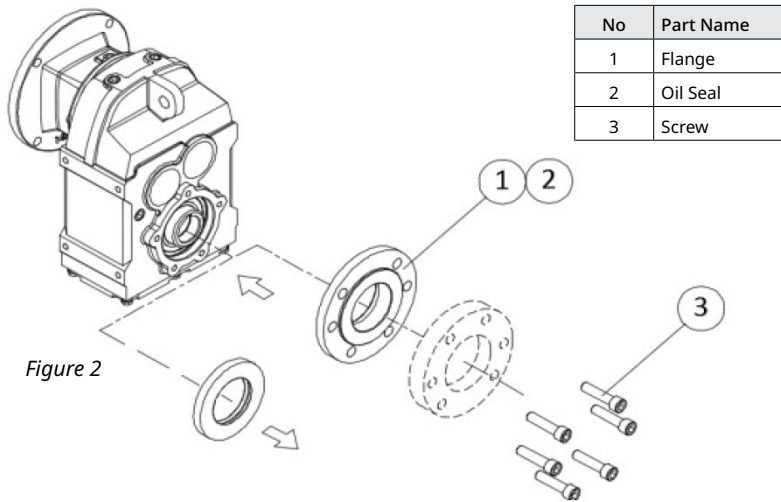

Figure 2
2. Install the output flange kit, parts ①-③(Fig. 2)